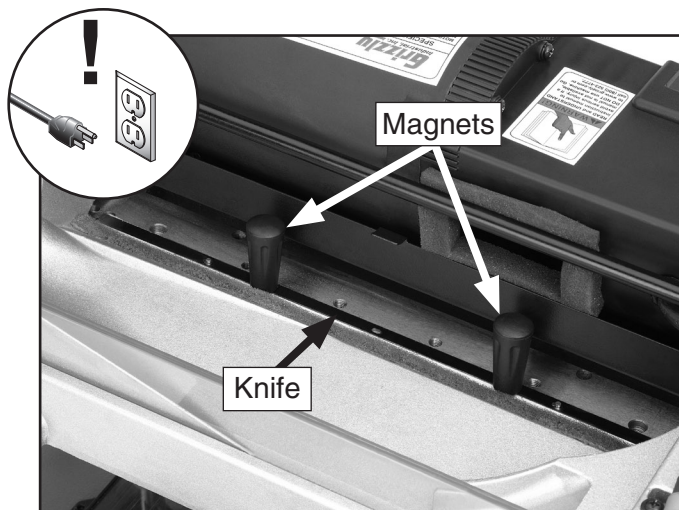

Figure 31. Knife removal.
5. Use the included magnets, as shown in **Figure 31**, to first remove the gib, then the knife.